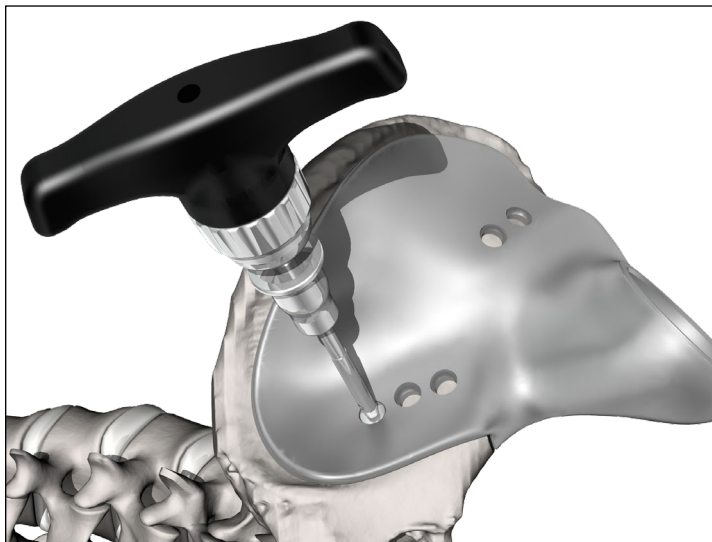

Figure 2: **Screw extractor** can be used to remove pre-existing hardware.
2. If applicable, remove any existing hardware according to the surgical plan using the **Screw Extractor** and the **Quick Connect T Handle**. (Figure 2).